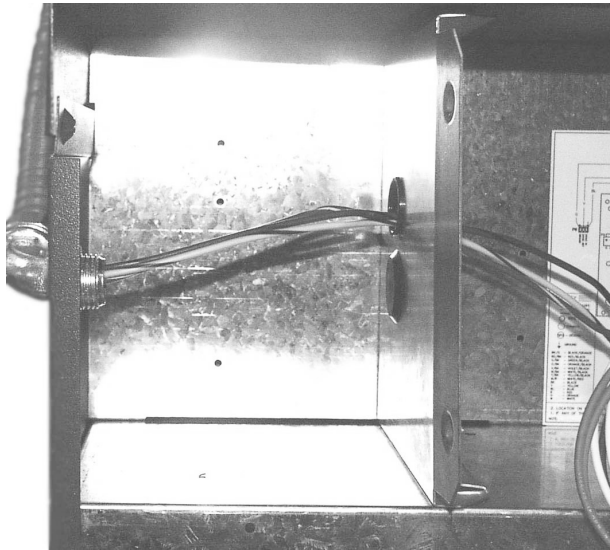

Figure 21. Harness Routing
19. Route the 24 VAC harness through the 7/8" grommet, See **Figure 21**.